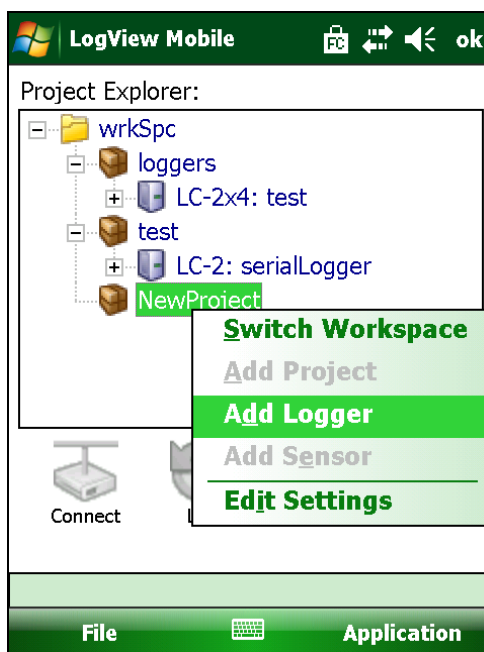

Figure 48 - Adding a Datalogger
3. From the context drop-down menu select "Add Logger"(see Figure 48).